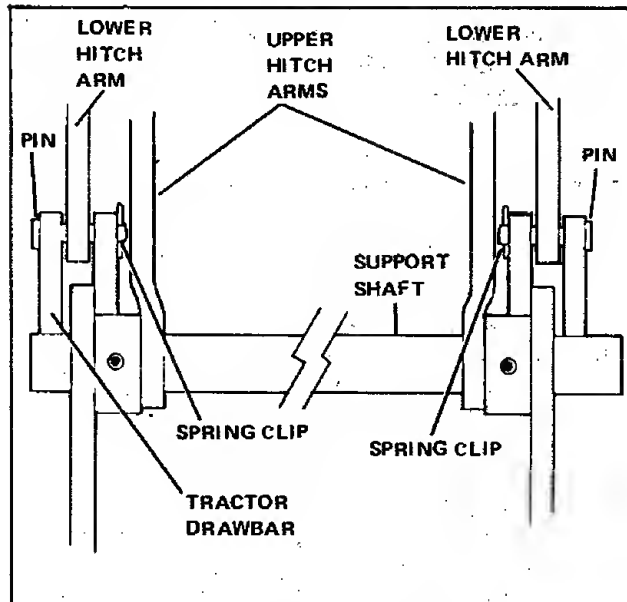

Figure 1. Attaching Blower Unit to Tractor
1. Lift the vacuum collector blower assembly up and hook the upper hitch arms over the support shaft. Align the lower hitch arms with the holes in the lower drawbar, and attach the hitch arms to the tractor drawbar with two pins and spring clips provided. (See figure 1.)